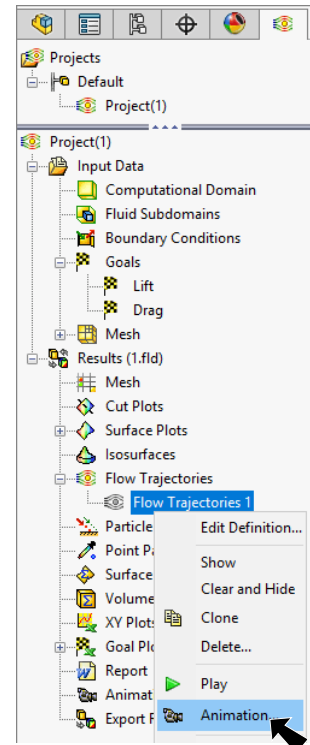

Fig. 30
Step 2. **Right click Flow Trajectories 1** in Flow Simulation tree and click **Animation**, Fig. 30.